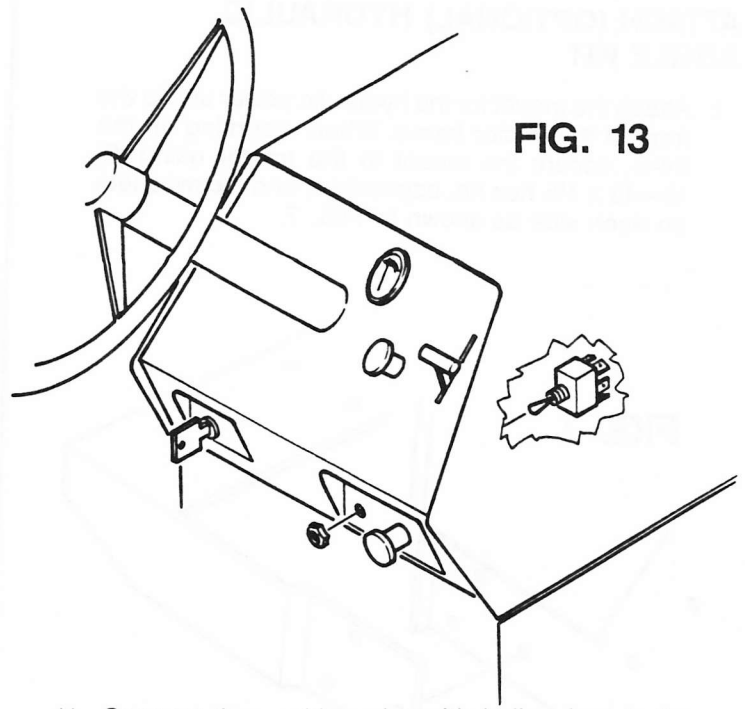

FIG. 13
10. Mount the DPDT switch to the dash of the tractor as shown in FIG. 13. Tighten the nut securely.